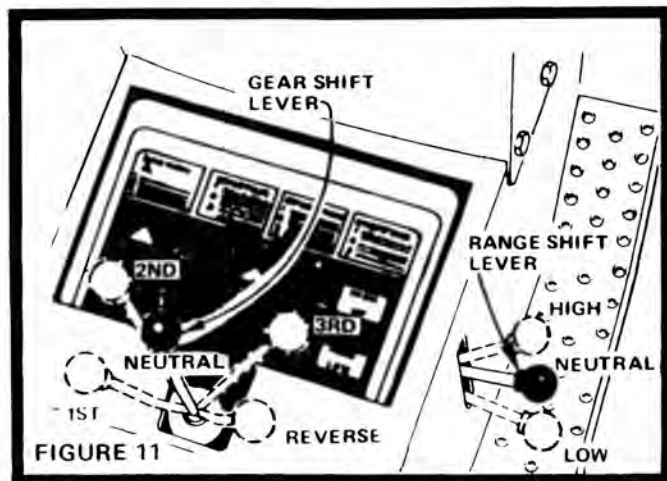

FIGURE 11
3. Place Gear Shift Lever in neutral "N" position (Fig. 11).
4. Move Range Shift Lever to "N" neutral position (Fig. 11).
For pushing or towing your tractor, place Gear Shift Lever and Range Shift Lever in "N" (Neutral) position (Fig. 11). **NOTE: DO NOT TOW YOUR TRACTOR FASTER THAN SIX MILES PER HOUR.**